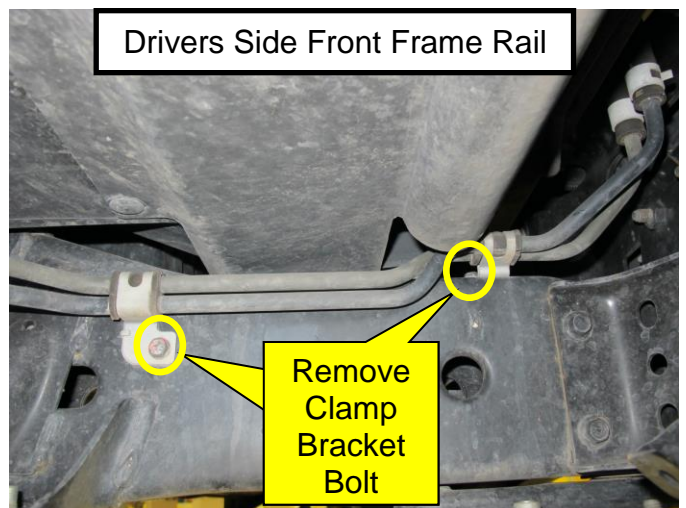

Figure 6
- Remove the two power steering pipe clamp bracket bolts from the driver's side front frame rail (Figure 6).